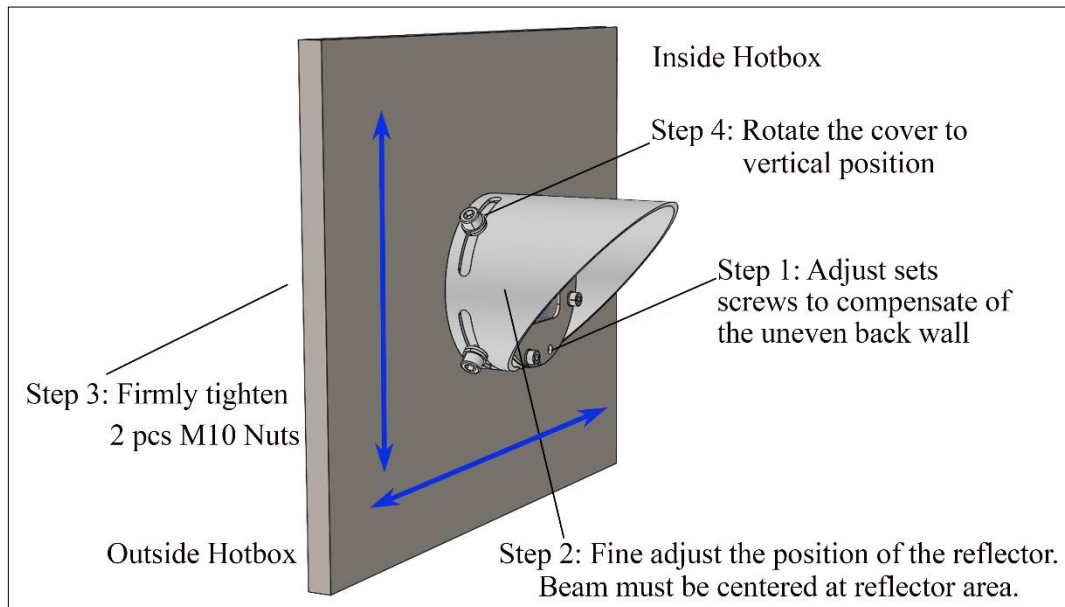

Figure 5-12: Adjust the Alignment
- Fine adjust the position of the reflector by means of the sliding function between the M10 bolt and the housing - Figure 5-12. Ensure that the light beam hits the exact center of the reflective area refer to section 7.2.